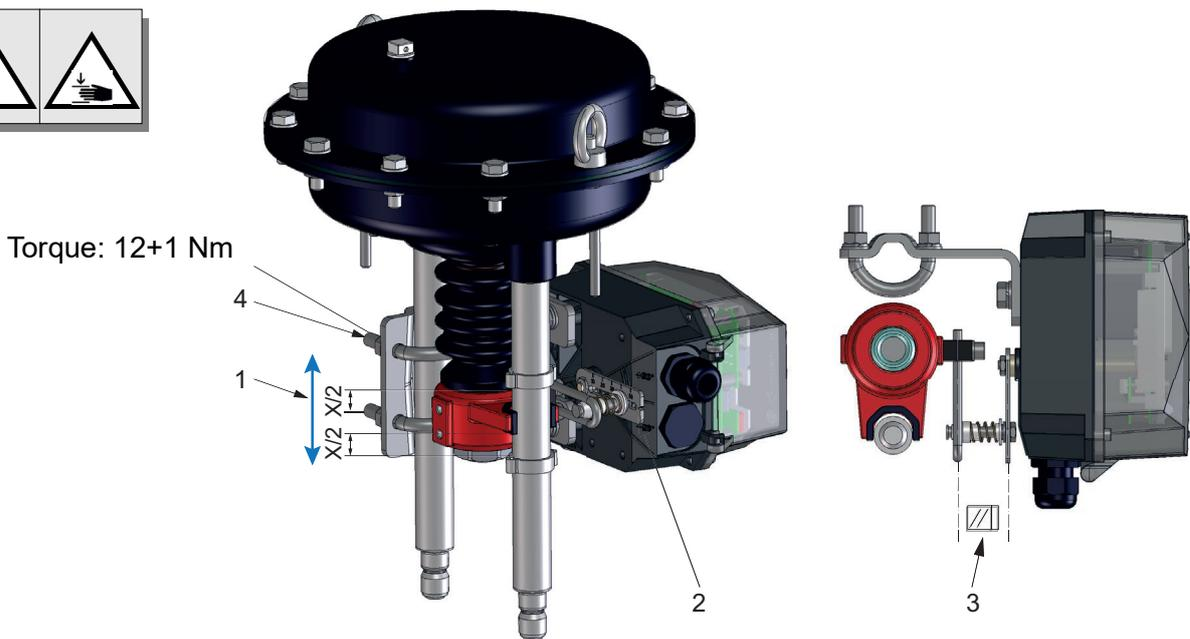

Fig. 17
- Check that the positioner is placed parallel to the two columns of the actuator (see Fig. 17).
- To fix the ARI-STEVI-POS® in the set position, the hex nuts (pos. 658) on the two brackets must be tightened (see Fig. 17).